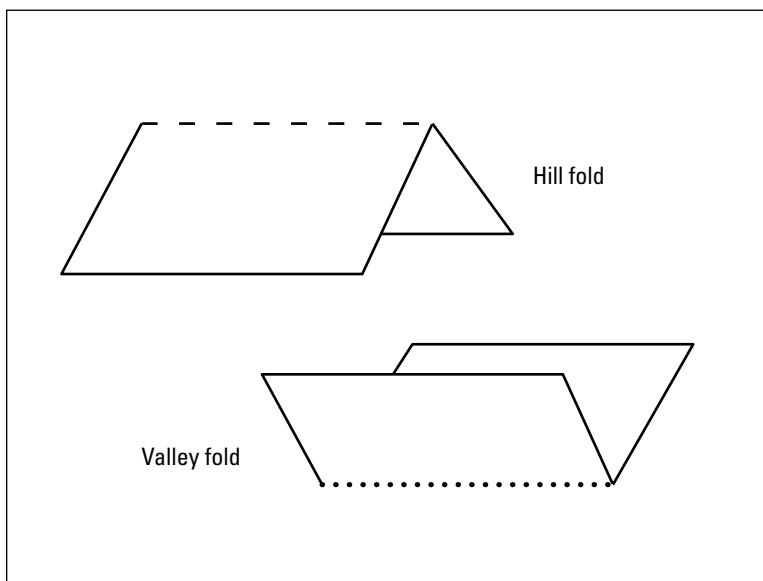

Figure 4-2:
- ✔ **Dotted lines:** Lines with a series of small dots show where to score to make *valley folds* (see Figure 4-2). These folds form the letter *v*, making a small valley in the card. You need to score along dotted lines before you cut out the card. (To understand scoring, check out the “Scoring for crisp folds” section later in this chapter.)
- ✔ **Dashed lines:** Lines made up of small dashes show where to score to make hill folds (refer to Figure 4-2). In a *hill fold*, sometimes referred to as a *mountain fold*, you fold the paper or card downward to make a little hill shape.